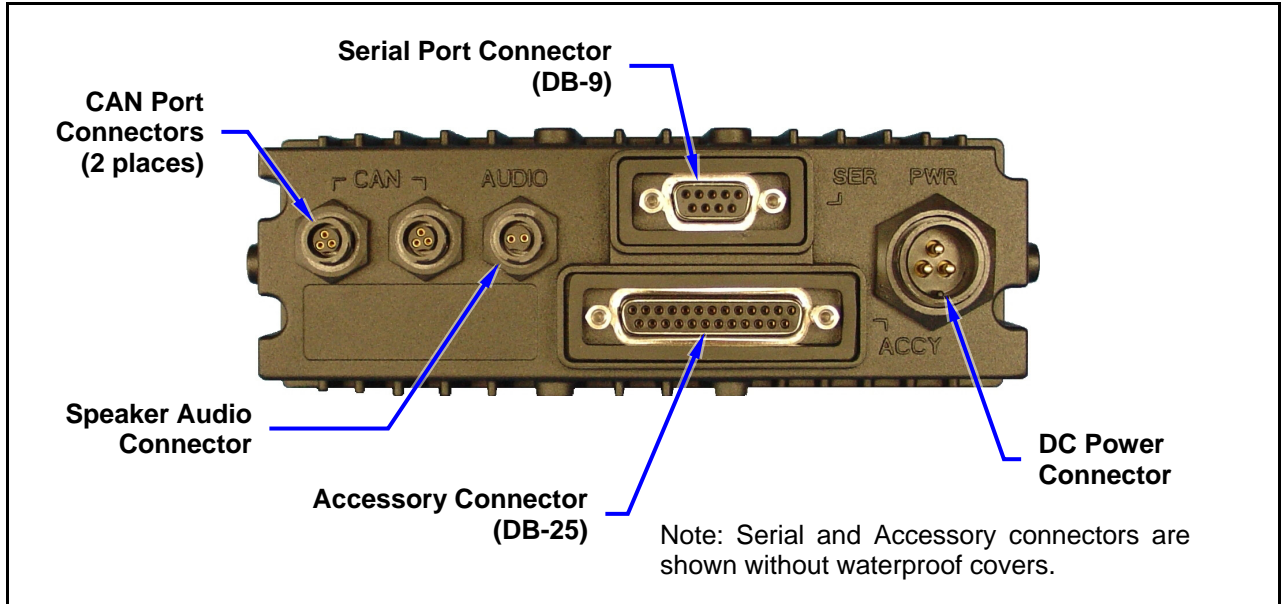

Figure 10-2: CH-721 Rear Panel
Figure 10-2 illustrates the control head's rear panel. Connectors on the rear panel include two (2) CAN port connectors, a speaker audio (output) connector and a 25-pin D-subminiature (DB-25) accessory connector, and a 9-pin D-subminiature (DB-9) serial port connector. The DB-25 accessory connector is used for connection of optional equipment to the control head, such as a siren/light control system. The DB-9 serial port connector is typically only used during programming performed at the factory.
Both the VRMS and the control head have two CAN ports. Figure 5-1 on page 29 shows the radio’s two CAN port connectors, which are located on cable side of the I/O cable’s DB-44 connector. Figure 10-2 on page 57 shows the two ports on the control head’s rear panel.